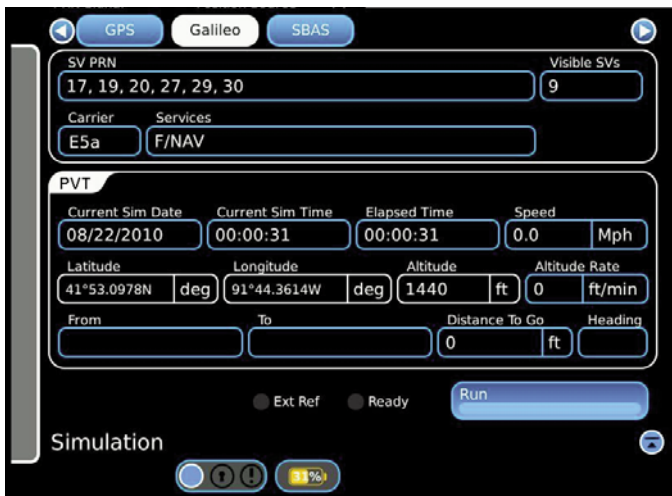

Figure 7
9. On both GPSG-1000 units Menu Bar select Simulation. On the Simulation screen PVT fields set the Latitude, Longitude, and Altitude fields to the same values. See Figure 7.